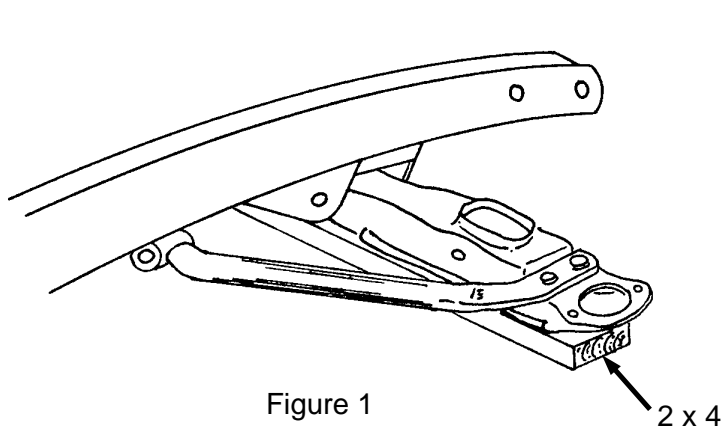

Figure 1
1. Assemble the Tubular Strut Rod to the Lower Control Arm the same as a stock strut rod. Use the nuts supplied to tighten it onto the arm. See Figure 1.
2. Install the Lower Control Arm assembly into the Crossmember and hold it in the horizontal position by C-clamping a 2 x 4 to the bottom of the crossmember, extending it out under the Lower Control Arm (Figure 1). **Note:** The bushing end of the Strut Rod will be floating below the frame. It should be the same dimension in both sides. If not, select an average dimension for the two ends and flex the struts up and down to position them accordingly.